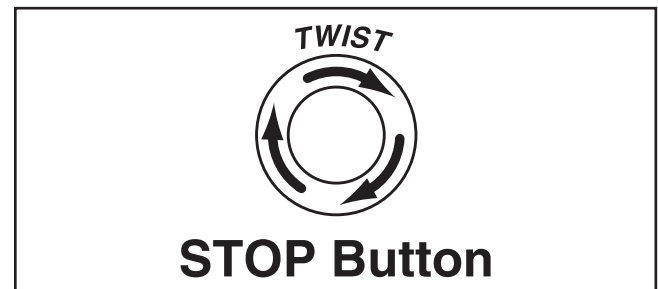

Figure 15. Resetting the switch.
4. Twist STOP button clockwise until it springs out (see **Figure 15**). This resets the switch so the machine can start.